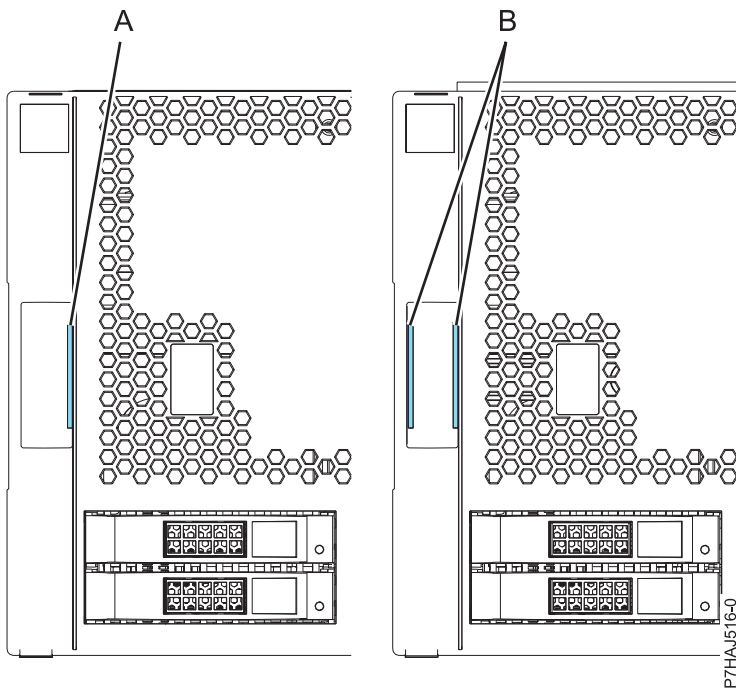

Figure 95. Identifying the older and newer covers
**Note:** The older covers that were shipped before 1 March 2011 can be identified by a single blue stripe (A) on the cover assembly latches. Newer covers that were shipped after 1 March 2011 have two blue stripes (B) on the cover assembly latches. See Figure 95 on page 118.